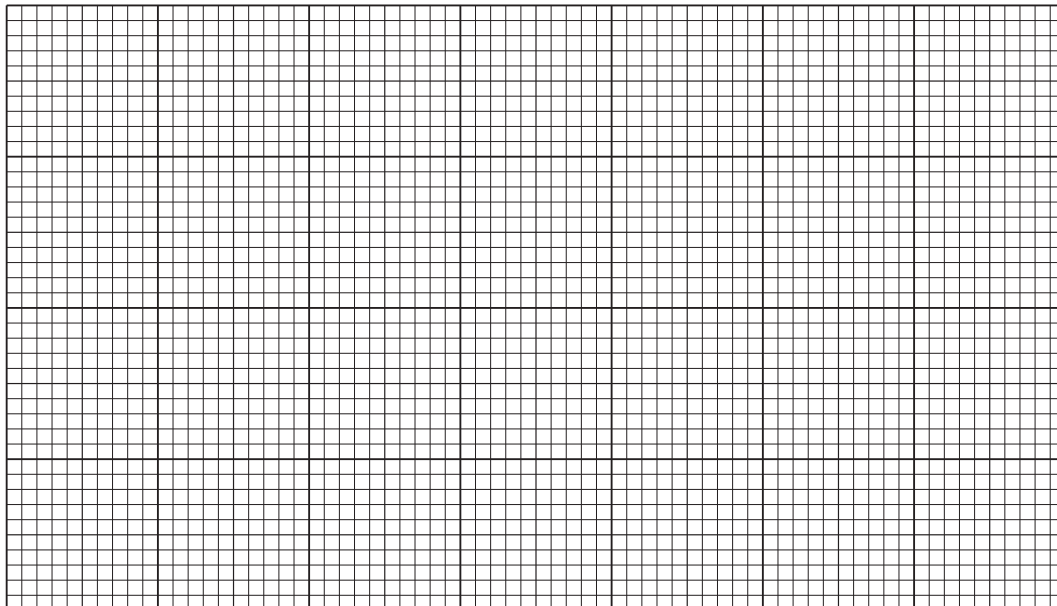

Fig. 1.4
- (i) Plot a graph of the data shown in Table 1.4 on the grid in Fig. 1.4.